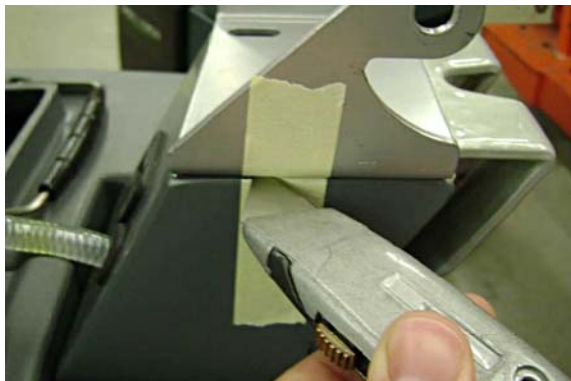

Fig. 2
2. Mark the position of the handle bracket with a piece of masking tape and cut the tape as shown (Figure 2). The mark is required to properly position the bracket when re-assembling handle.